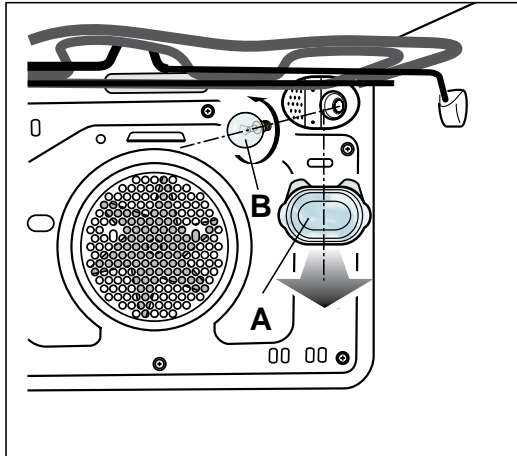

Fig.37
- Remove the protective cover "A" (Fig. 37).